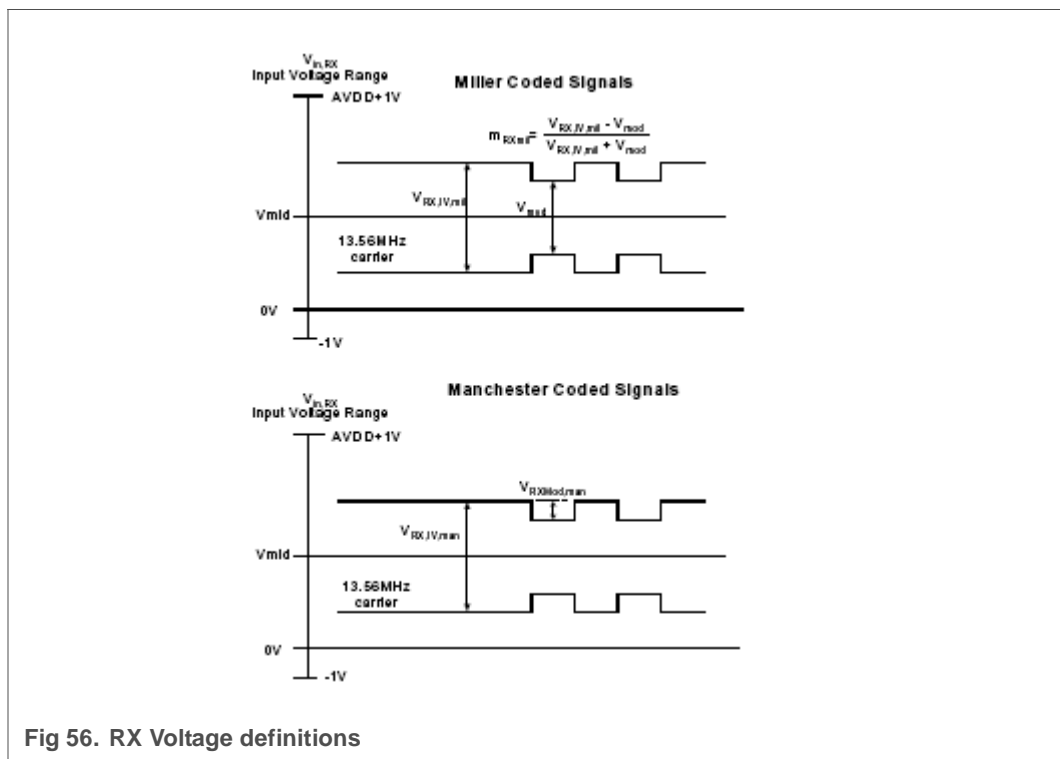

Fig 56. RX Voltage definitions
- [2] The Figure 56 “RX Voltage definitions” outlines the voltage definitions.